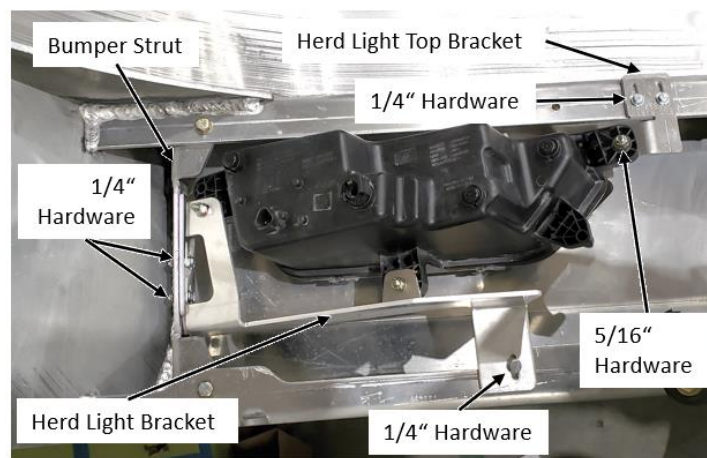

Figure 3c:
3. Using the provided 1/4" hardware, mount the OEM Light – Herd Light Bracket Assembly to the bumper as shown in figure 3c. Install the Herd Light Top Bracket to the OEM light and the Bumper Strut using the provided 1/4" and 5/16" hardware, Figure 3c.